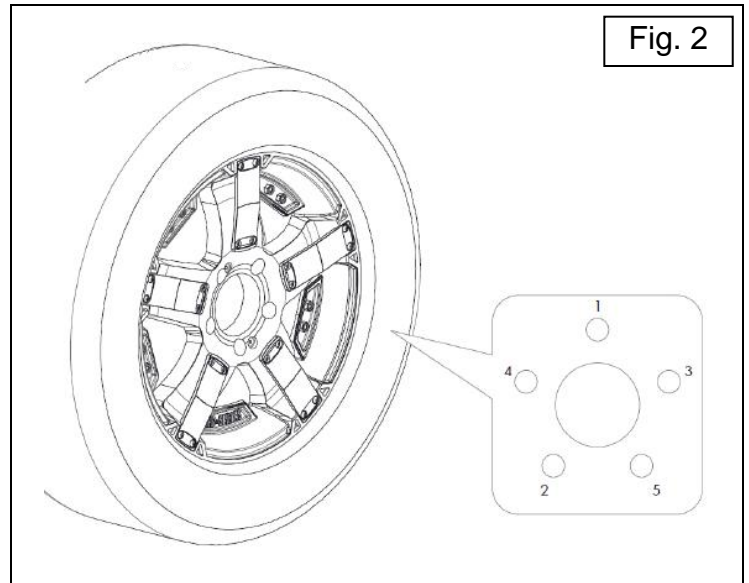

Fig. 2
- Using Torque wrench, tighten lug nuts to 97lb.ft. in the sequence shown in Fig. 2.